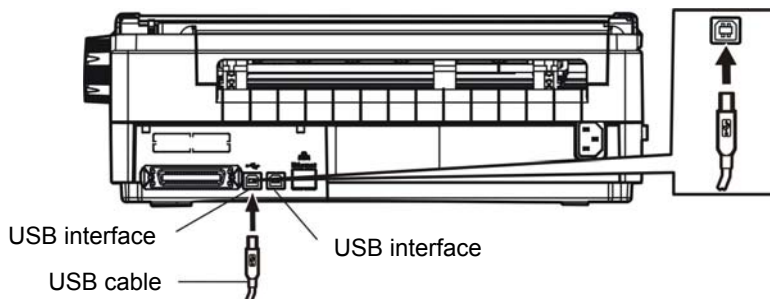

Figure 1-14 Connect to USB cable
2. Plug the USB cable B end (square shape) into the printer's USB interface (As shown in figure 1-14).